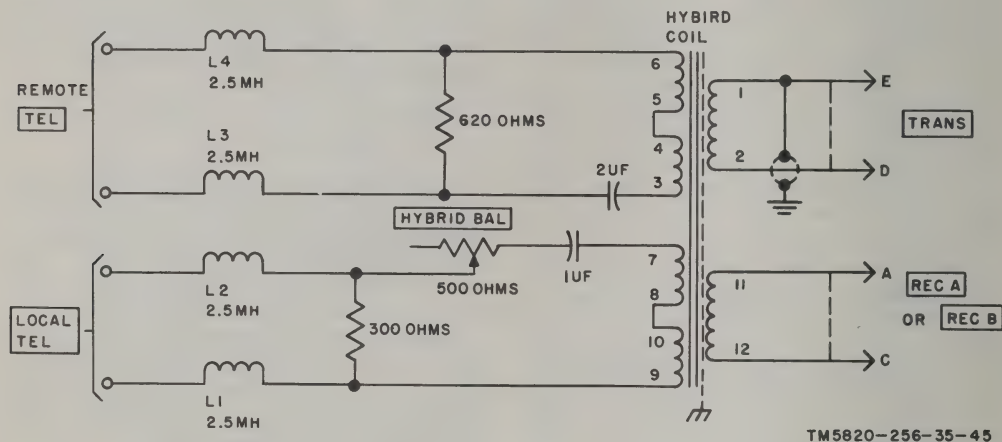

Figure 2-4. Control, Radio Set C-1123/GRC, hybrid coil, functional diagram.
(fig. 2-4)
The hybrid coil is an audio coupling transformer which allows modulation of the transmitter by either the local or remote telephone and also the incoming received signal. The REMOTE TEL switch of the control unit (figs. 5-13 and 5-14) determines which circuits are connected to the hybrid coil. The operation of these circuits in the various switch positions is explained in *a* and *c* below. Variations in reference designations for the components shown in figure 2-4 are given in *d* below.
*a.* When the REMOTE TEL switch is set to REC A, the components are connected as shown in figure 2-4. Terminals 1 and 2 of the hybrid coil are connected to the TRANS connector and the transmitter 600-ohm line input. Terminals 3 and 6 of the hybrid coil are connected to remote TEL binding posts. Terminals 7 and 9 of the hybrid coil are connected to LOCAL TEL binding posts. Terminals 11 and 12 of the hybrid coil are connected to the REC A connector and the audio output of receiver A. With these connections, the receiver A output can be heard at the local or the remote telephone. When the transmitter is keyed, speaking into the local or the remote telephone will modulate the transmitter. The signal from the receiver will also modulate the transmitter, and the radio set may be used as a radio relay station. To avoid retransmitting the received signal when relay operation is not desired, the receiver LINE GAIN control is set to 0. Radio relay operation is only possible in duplex operation. Resistors (300- and 620-ohm) and the HY-
c. When the REMOTE TEL switch is at REC B, terminals 11 and 12 of the hybrid coil (fig. 2-4) are disconnected from receiver A and connected through the REC B connector to receiver B. All functions discussed for receiver A now apply to receiver B (*a* above).
d. The chart below lists the differences in reference designations for the C-1123/GRC components shown in figure 2-4.